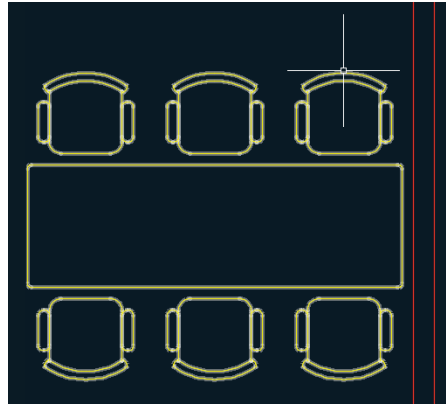

FIGURE 7.26 Reconstituted group after its constituent objects have been deleted, added, and stretched
- Click the Group Selection On/Off toggle in the Groups panel (turning it on). Hover the cursor over the desk, and observe that the entire group is highlighted (see Figure 7.26).